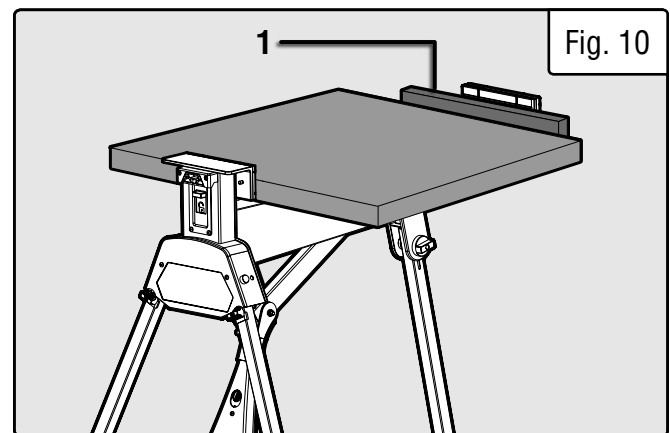

Fig. 10
- To clamp a workpiece between 16.5 in. - 22.5 in. in size, re-position the moving jaw in reverse, unscrew the moving jaw handle, and place a piece of scrap wood (Fig. 10 - 1) against either of the jaws to securely clamp your workpiece (Fig. 10).